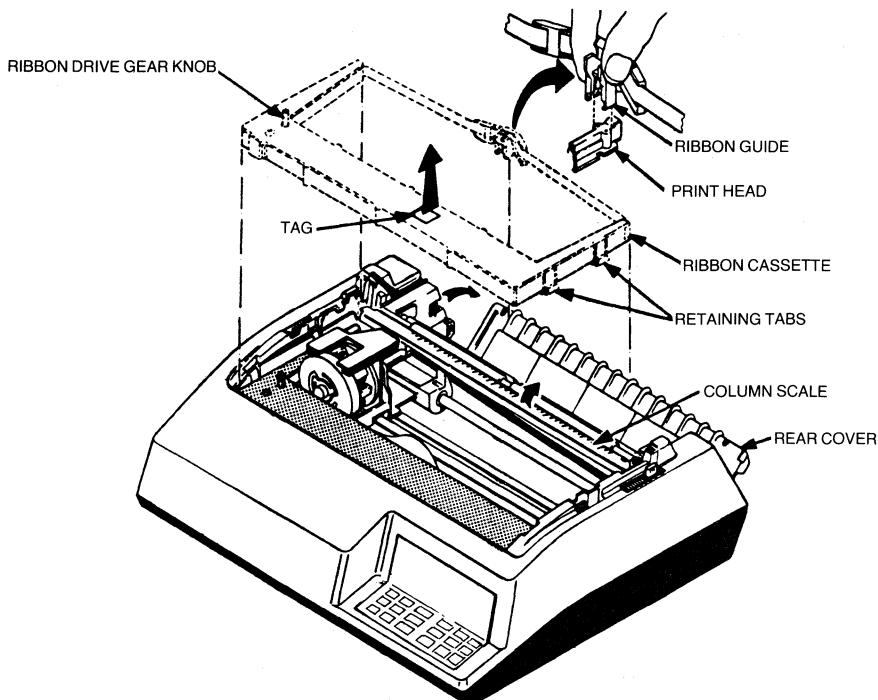

Figure 2-1 Reloading the Ribbon Cassette and Guide.
3. While manually moving the print head from side to side, push the head adjustment lever toward the back of the printer (see Figure 2-1) until smudging or paper rippling occurs, then pull the head adjustment lever toward the front, one position.